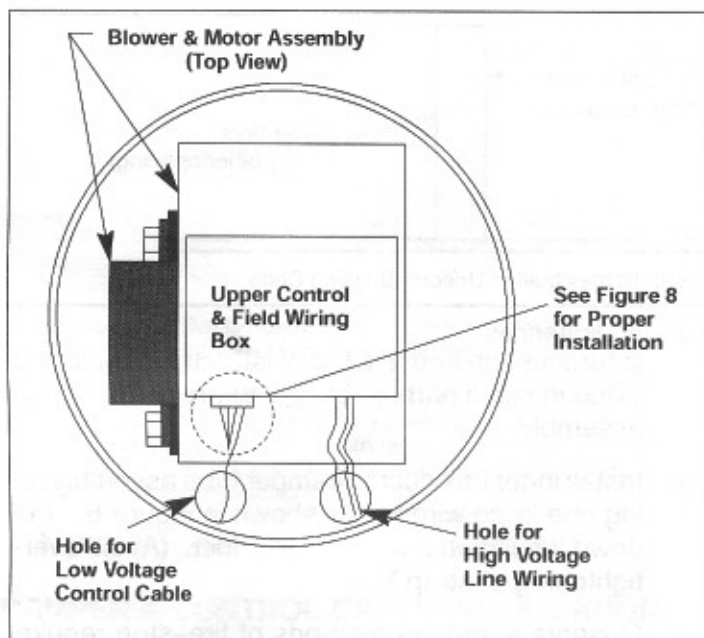
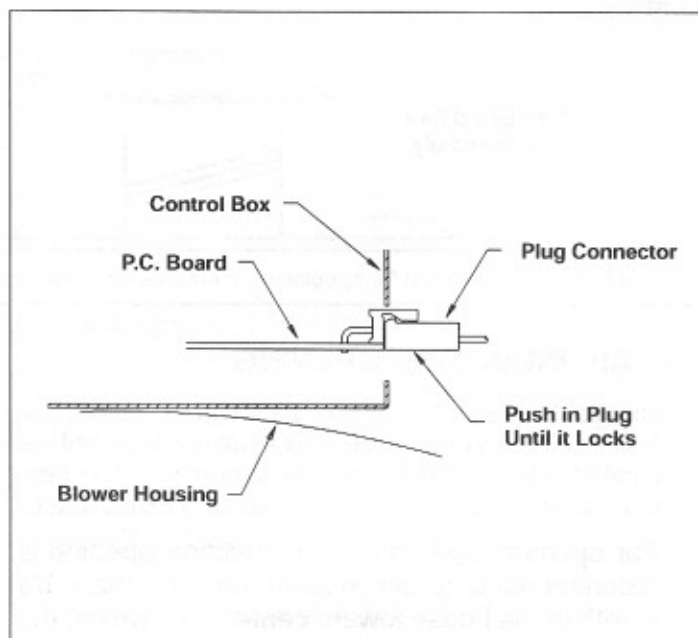

Figure 7 - Wiring Route
Figure 8 - Cable Connection
2. Route low voltage control cable through hole provided in roof flange, as shown in FIGURE 7. Insure the control cable is plugged into upper control box as shown in FIGURE 8.